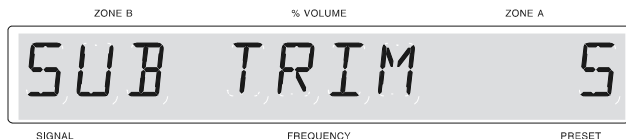

Figure 37
1. Press and release the TRIM pushbutton on the Remote Control until SUB TRIM appears on the front panel display. Refer to figure 37.